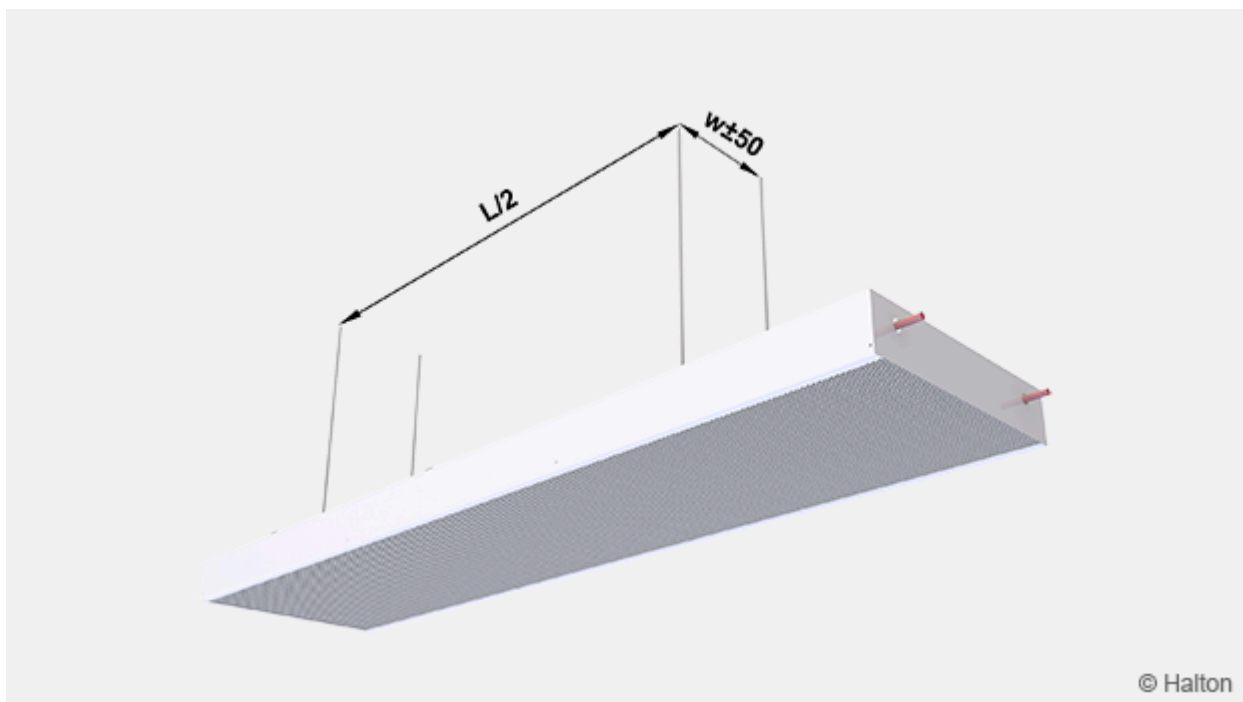

Fig. 13. Halton Rex REP, length less than 2400 mm
1. Close to the wall (see Fig. 13-A)
2. **Further from walls** (see Fig.13-B)